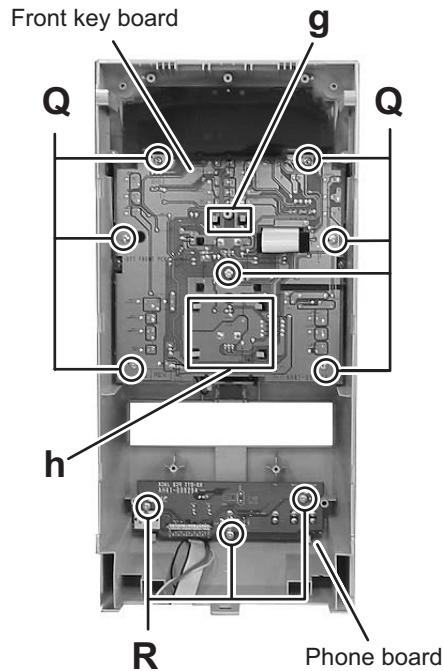

Fig.16
(See Fig.16, 17)
- (1) From the inside of the front cabinet assembly, remove the seven screws **Q** attaching the front key board. (See Fig.16)
- (2) Release the two claws **g** and the four claws **h** and then remove the front key board from the front cabinet assembly. (See Fig.16)
(See Fig.16)